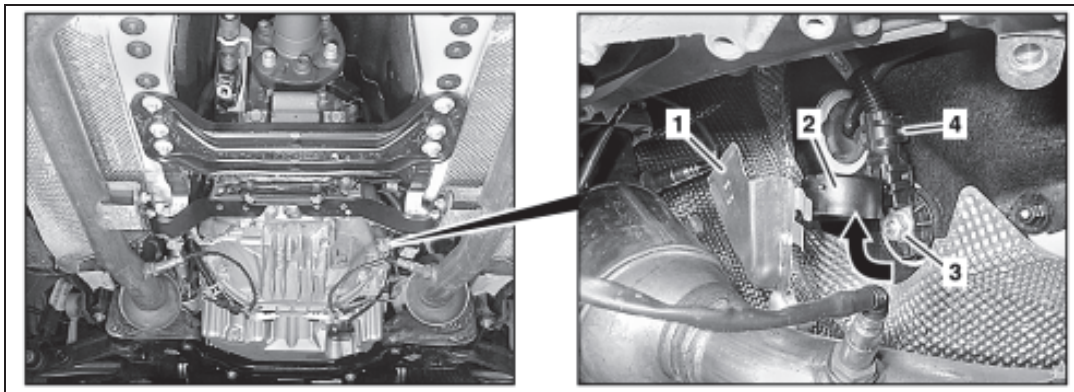

Figure 1
- 3) Disconnect starter cable harness on the vehicle under side from (F32) prefuse box (Figure 1, 3).